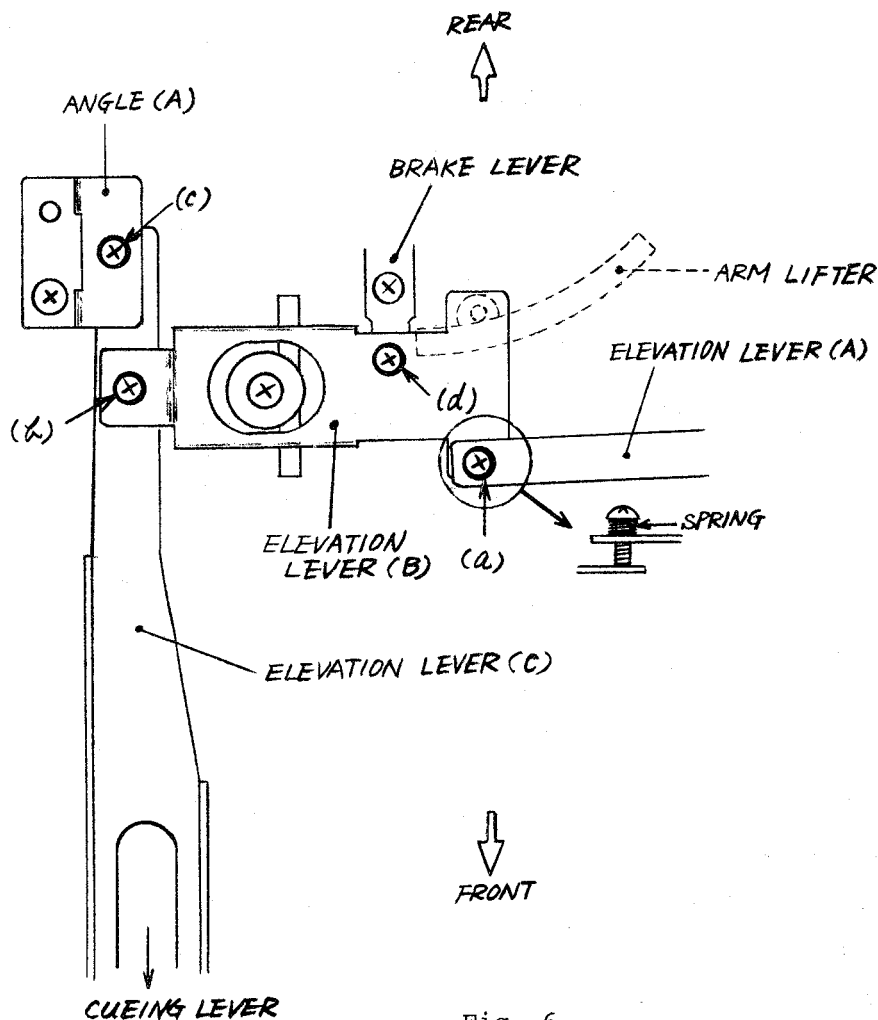

Fig. 6
1. TONE ARM LIFTER ADJUSTMENT (Fig. 6)